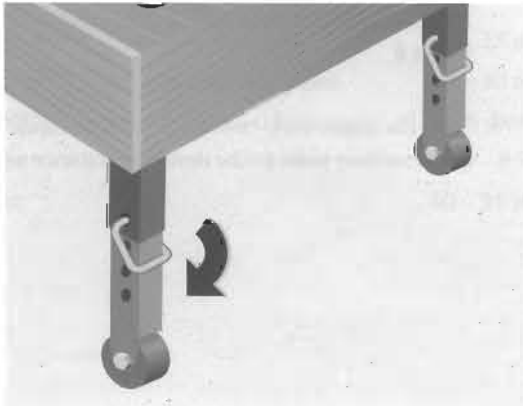

Figure 7
6. Rotate the bent side of the pin down onto the elevation leg to secure the easy-lock pin in place (Figure 7).